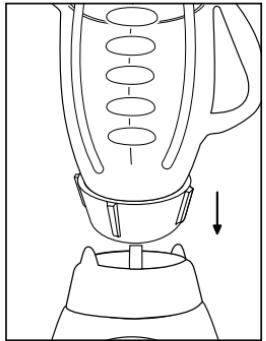

FIGURE 4
5. Place jar assembly onto base. (*Figure 4*)